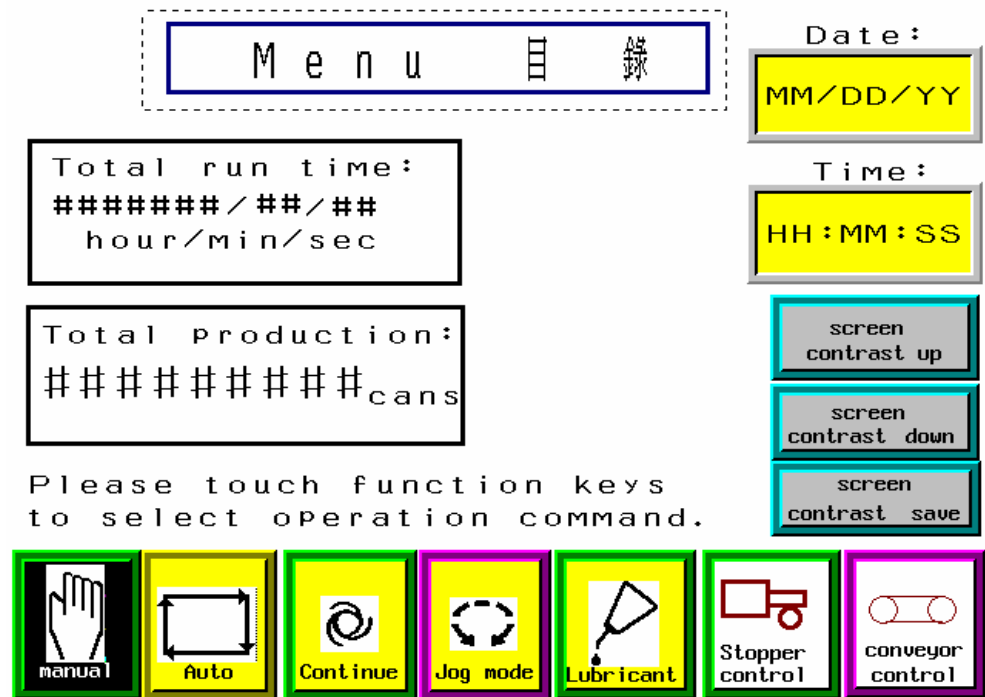

Figure 13. An Example of the “Screen Image” Print Option
- “Screen Image”: Prints the image of a screen without the PLC locations. See Figure 13.